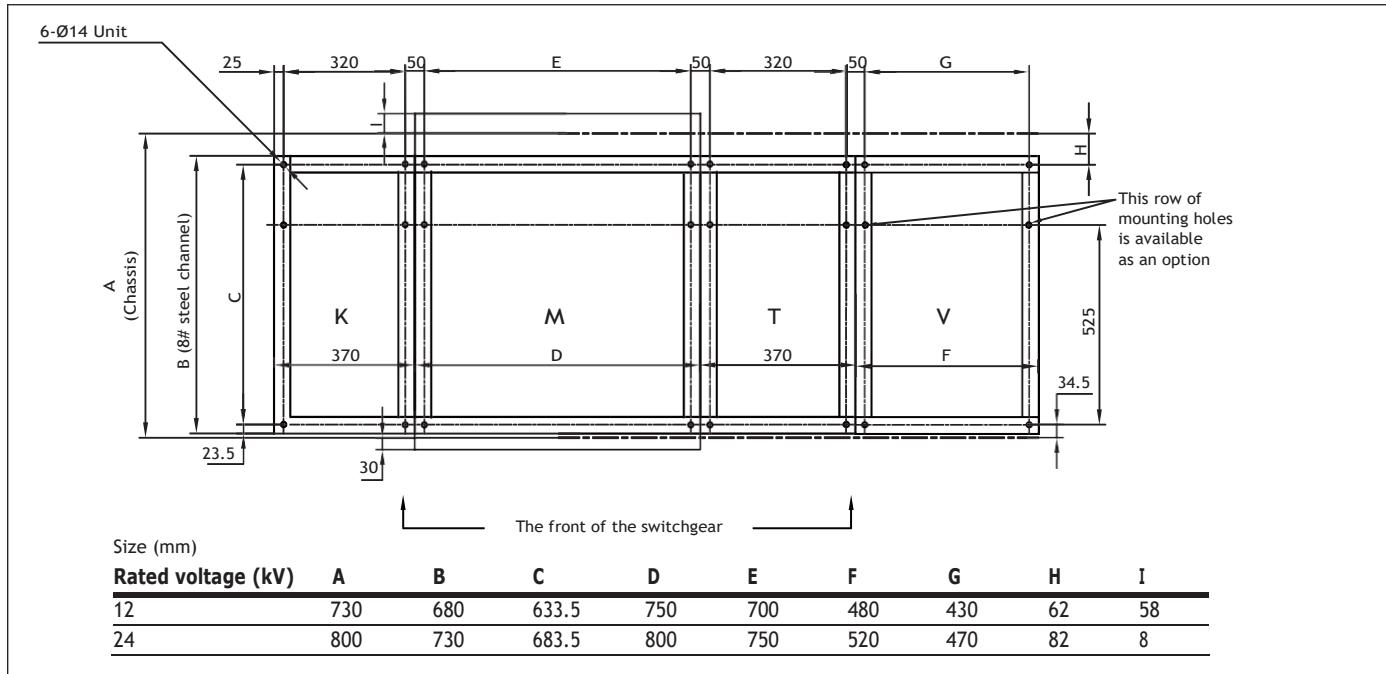
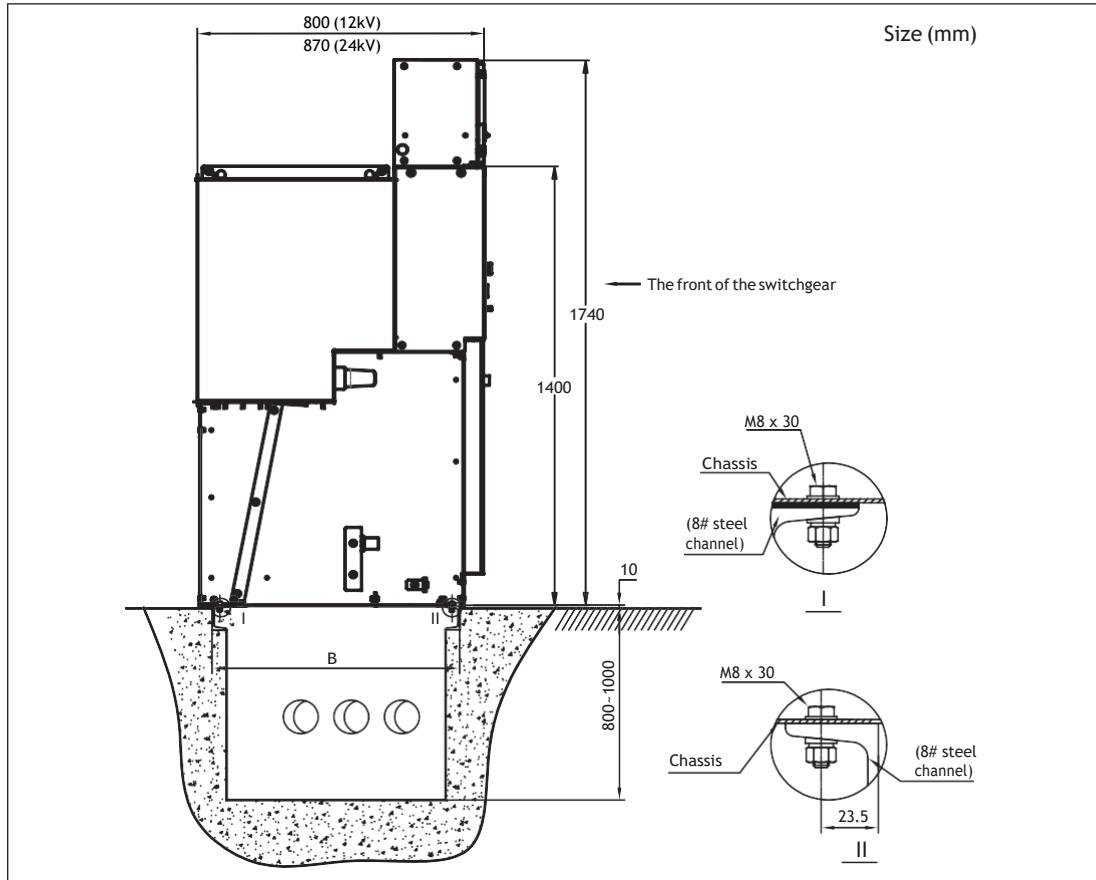

Figure 12.1 RMU indoor installation base dimension
Figure 12.2 The frame installation base at the RMU side
2.3. For the dimensions of the RMU installation bases, see **Figure 12.1** and **Figure 12.2** (12kV cabinet depth 800mm, 24kV cabinet depth is 870mm).